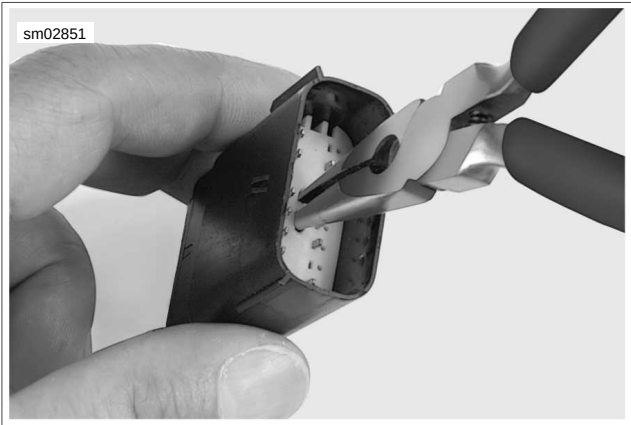

Figure A-26. Pull Up Secondary Lock (Pin Housing)
- b. **Pin Housing:** See Figure A-26. Use needle nose pliers to engage the D-holes in the center of the secondary lock.